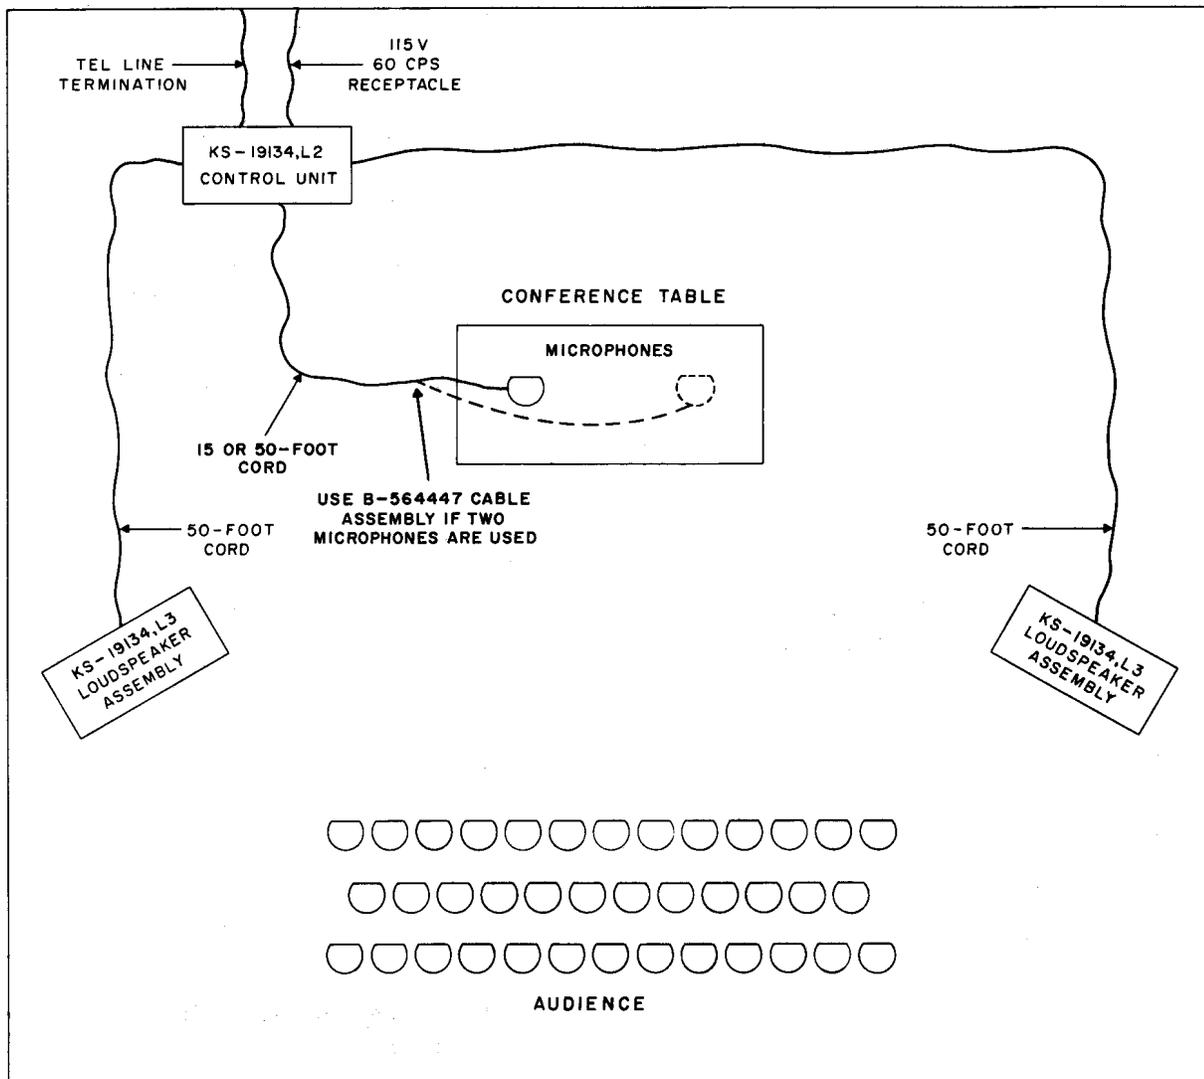

Fig. 1 — Block Diagram
- 1.09** Fig. 1 is a block diagram of a typical installation.